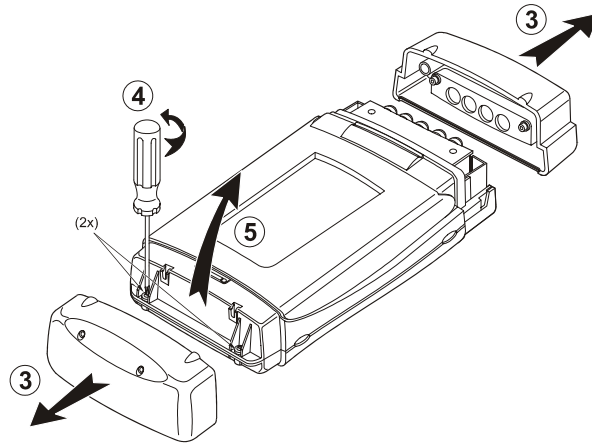

Figure 6-4. Opening the Analyzer
3. Pull off the input cover and the bottom holster (Figure 6-4).